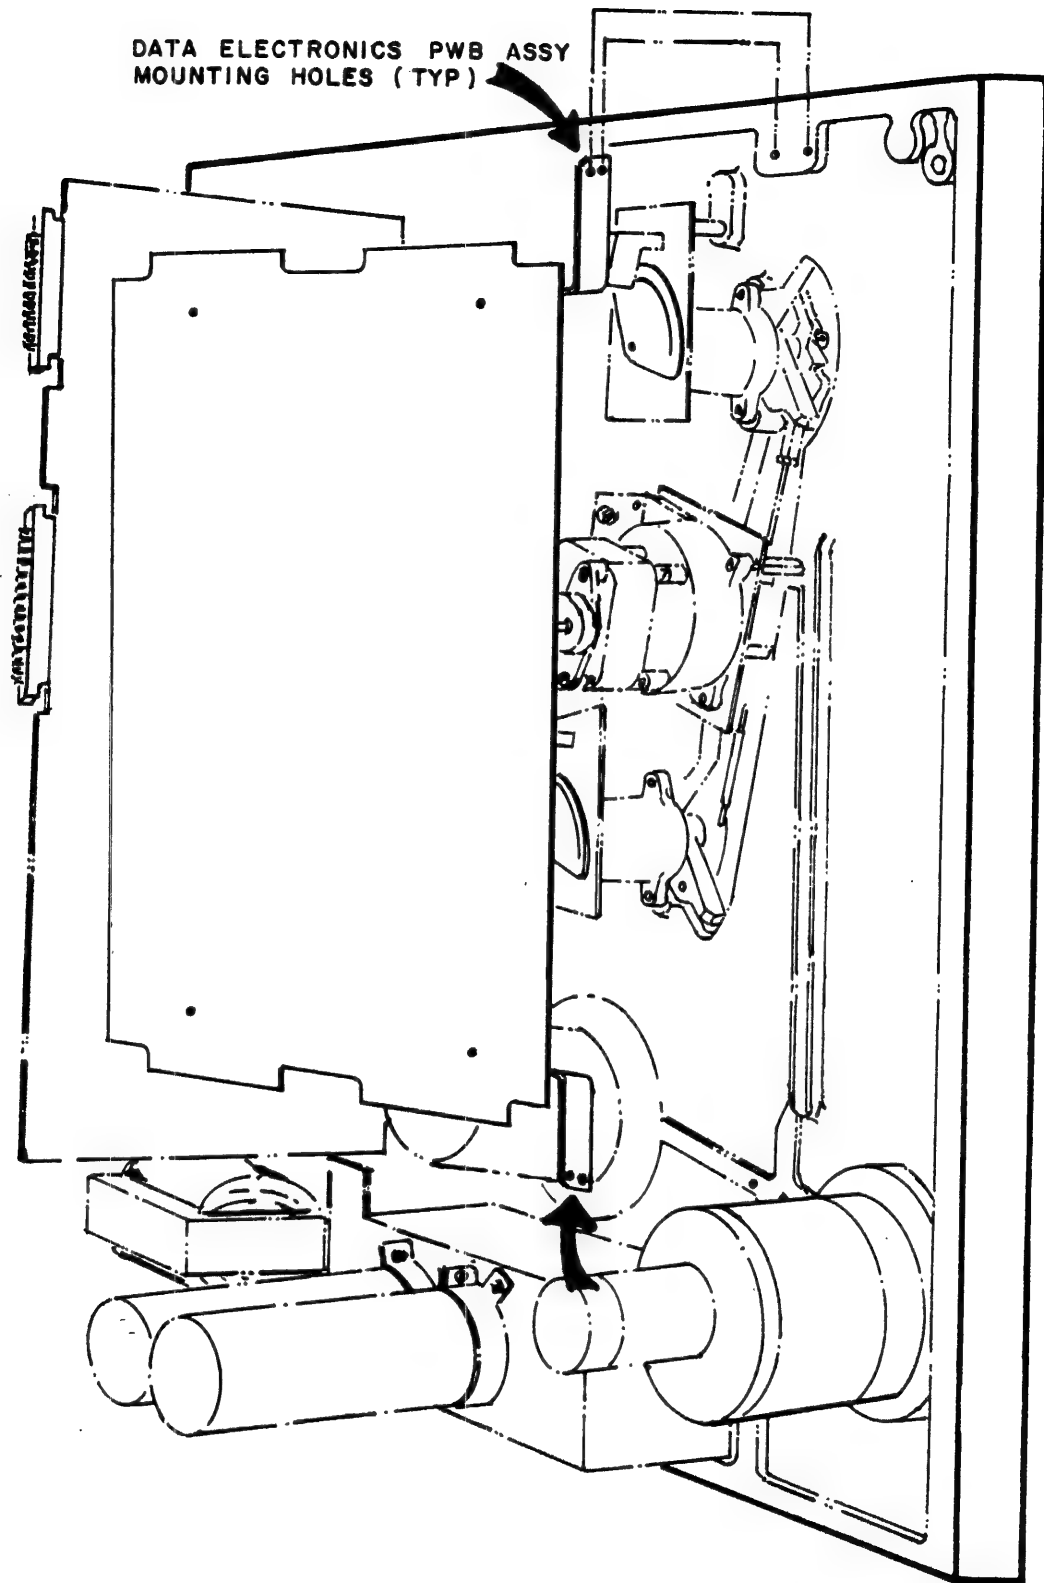

Figure 4-6. Data Electronics PWB Removal, PE-Only System
- c. While supporting DEB to prevent damage, remove four Phillips screws that hold DEB mounting brackets to transport deck. Location of bracket screws are shown in Figure 4-6.